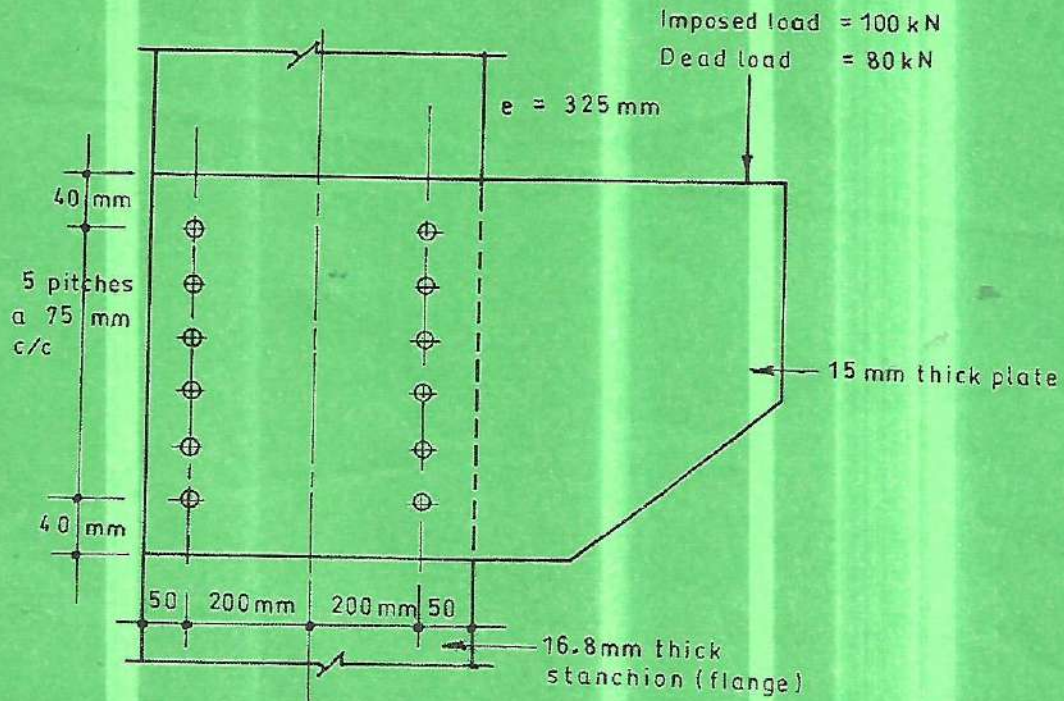

Fig. 5
6. **Figure 5** shows an eccentrically loaded bolted connection for a stanchion in grade S275 steel.